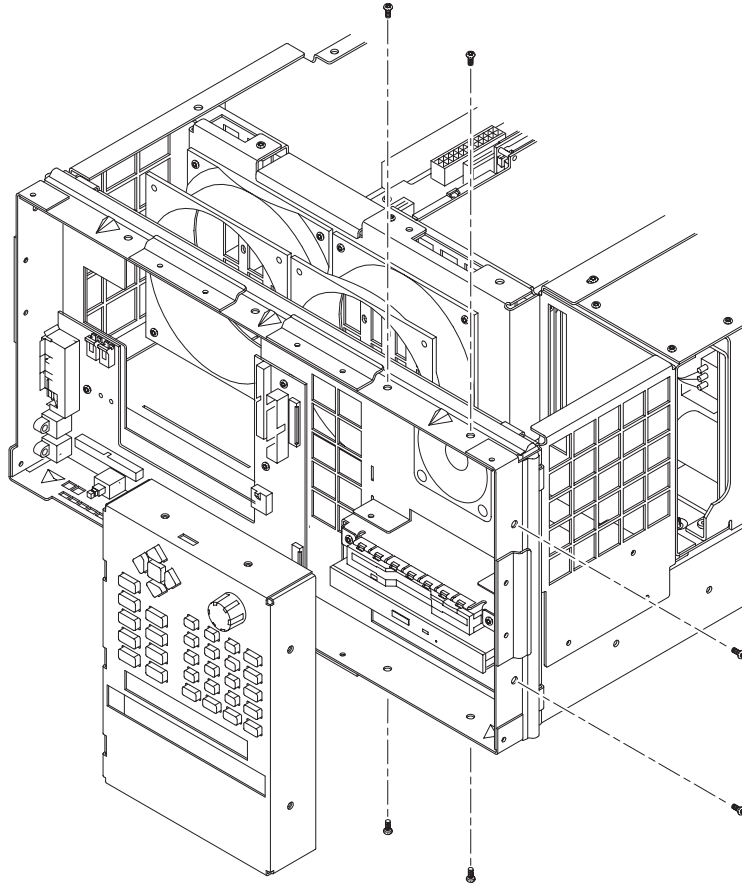

Figure 6–9: Key pad assembly removal
1. Remove the six screws holding the keypad assembly to the mainframe chassis. There are two across the top, two across the bottom, and two on the right side of the assembly (see Figure 6–9).